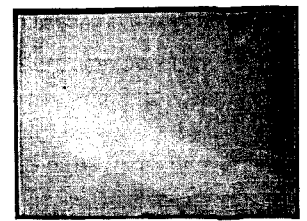

Fig. 5-4-12
- o Adjust VR3 (G H-CENTERING) on the Deflection board and VR1 (G V-CENTERING) on the Deflection VIC board so that the target ring (edge) of G pick-up tube is equally observed at the four corners of monochrome underscanned video monitor. (Fig. 5-4-12)